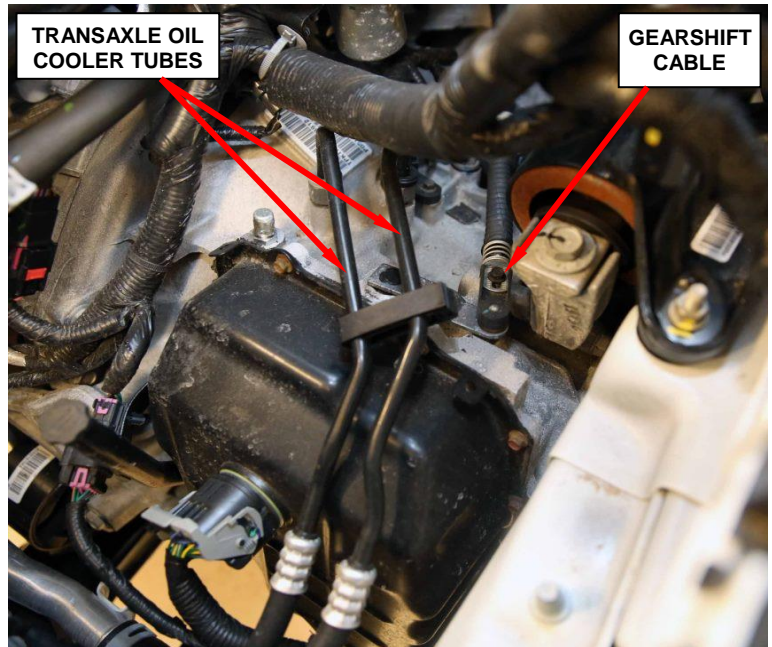

Figure 10 – Gear Shift Cable and Bracket
4. Disconnect the gearshift cable from the transaxle manual valve lever (Figure 10).